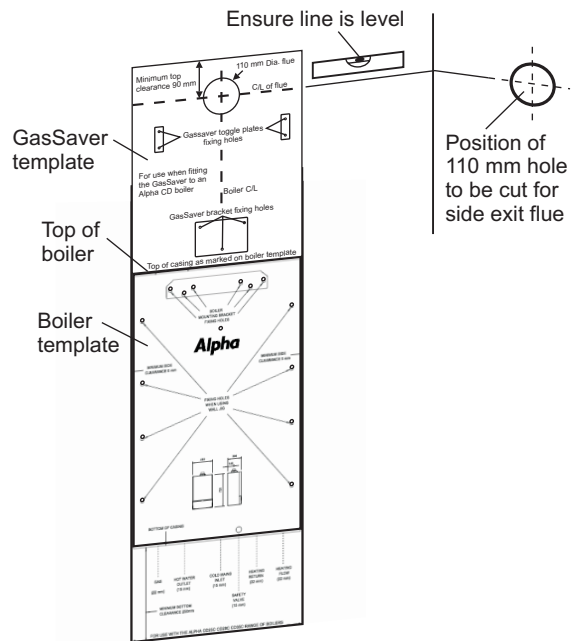

Fig. 6
5.3 FIT THE GASSAVER - Figs. 6 and 7
3. Use the GasSaver wall template in conjunction with the boiler wall template (Fig. 6) to determine the positions of the flue hole and the holes for the various fixings.